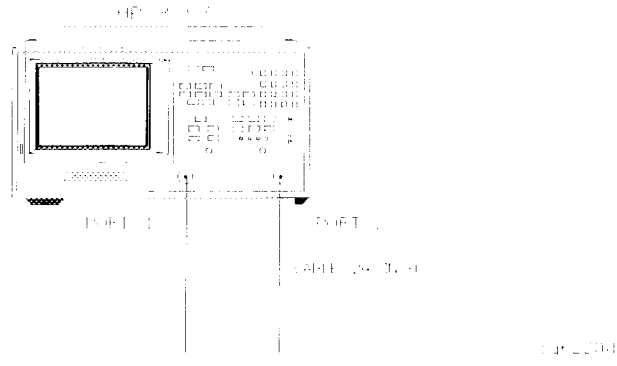

Figure 4-15. Setup for Test Port 1 Input Frequency Response
- 39 When the analyzer finishes the calibration sweep, connect the equipment as shown in Figure 4-15.